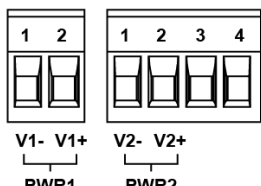

Figure 1
- Insert the positive and negative wires into the **PWR1 (V1+, V1-)** and **PWR2 (V2+, V2-)** contacts on the terminal block connector as shown below in Figure 1.